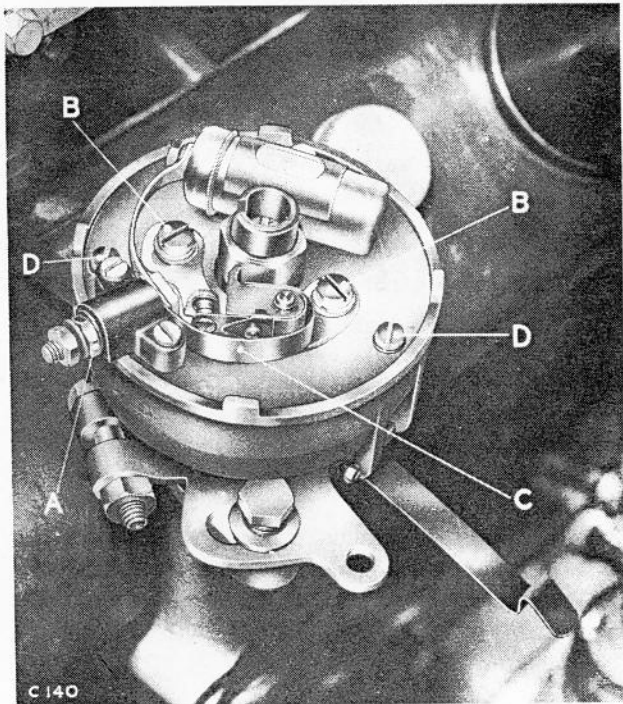

Fig. 36 Distributor details.
3. Remove the two base plate fixture screws (as shown at D in Fig. 36), and lift out the base plate.
3. Referring to Fig. 36, slacken the nut "A" to release the slotted end of the rocker spring, and lift off the rocker from its pivot post, and then the insulating washer.
6. To adjust the gap to the recommended figure slacken the two screws "B" in Fig. 36 and move the fixed plate about the pivot pin as necessary. Tighten the screws "B" when satisfactory and re-check the setting.